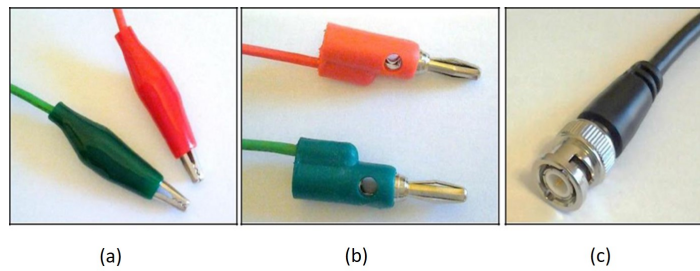

Figure 14: Examples of different connector types: (a) crocodile clips, (b) banana plugs and a (c) BNC plug.
1. The crocodile clips in Figure 14 (a) can be attached to a component lead, wire, or another crocodile clip for making electrical connections between the laboratory instruments and your circuit.
2. The banana plugs in Figure 14 (b) connect to the power supply and multimeter.
3. The BNC plugs in Figure 14 (c) connect to the function generator and oscilloscope.